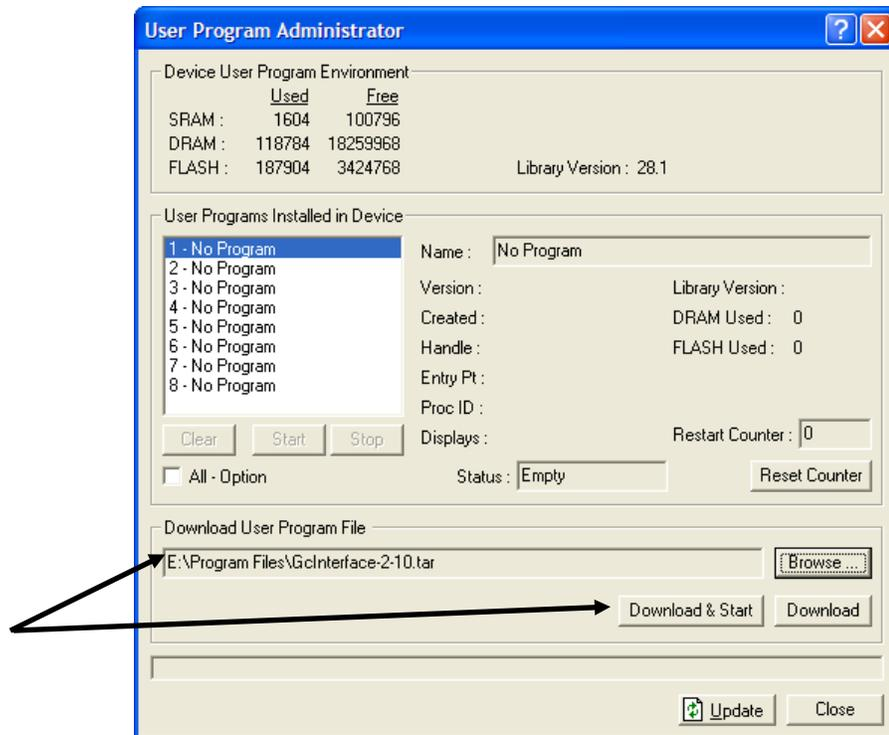

Figure 11. User Program Administrator
8. Click **Open** to select the program file. The User Program Administrator screen displays. As shown in Figure 11, note that the Download User Program File frame identifies the selected program and that the **Download & Start** button is active: